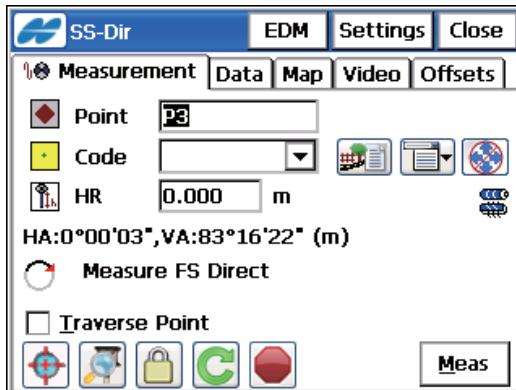
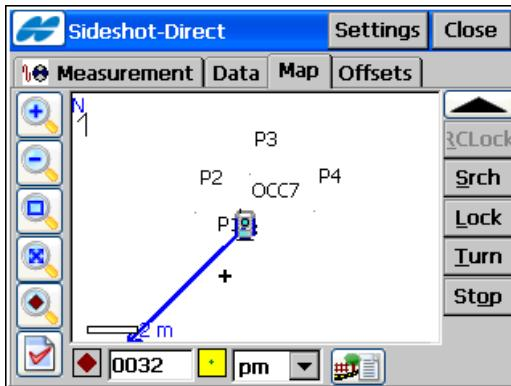

Figure 9-4. Sideshot-Direct – Measurement Tab
Figure 9-7. Sideshot-Direct – Map Tab
The *Measurement* tab on the ***Sideshot-Direct*** screen (Figure 9-4) contains the initial data for performing single sideshots and displays the following information during a survey.
- *Display Coords*: if chosen, the coordinates of the previous point measured displays below the HRdata. (Figure 9-4 on page 9-4).
The *Map* tab (Figure 9-7) on the second *Sideshot-Direct* screen performs sideshots in the graphic mode. The buttons on the right duplicate the controls on the first *Sideshot-Direct* screen (Figure 9-4 on page 9-4).
- *Display Coords*: if selected, the coordinates of the previous point measured displays below the HRdata (see Figure 9-4 on page 9-4).